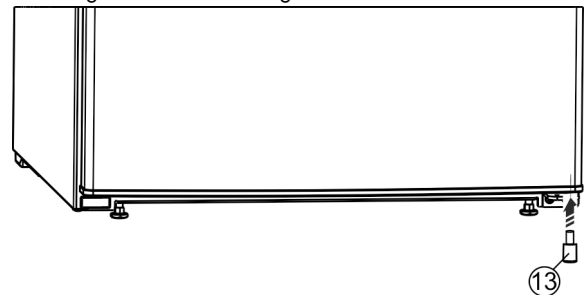

Fig. 26 *
- ▶ Insert the spacer Fig. 26 (13) back under the right-hand side of the door, as it is important for the stability of the appliance.*